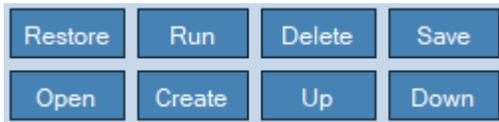

Figure 5: *History commands.*
- Geo Meshing history has eight options, which are shown in Figure 5.